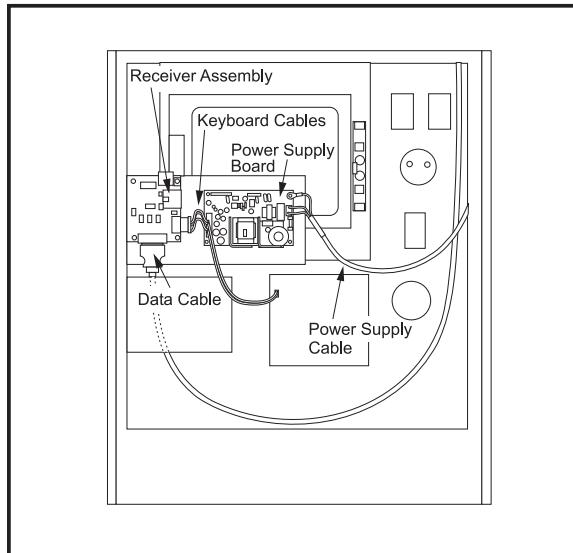

Figure 4.5-1 Interior of control panel (rear).
7. Use gloves to avoid getting fingerprints on the new LCD. Replace by sliding the new assembly onto the four bolts (two each on top and bottom). Place the washers and hex nuts on the bolts to hold in place. Refer to Fig. 4.5-1. Once all washers have been attached and nuts have been hand-tightened, tighten down completely.
3. Disconnect all leads to the switch's connectors. Ensure all leads are properly marked for reconnecting later. Refer to Fig. 4.5-1 for proper locations.